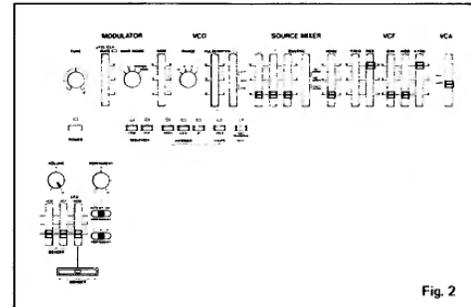

Fig. 2
**(D) Pulse Width**
- Set the panel controls as shown in Fig. 2